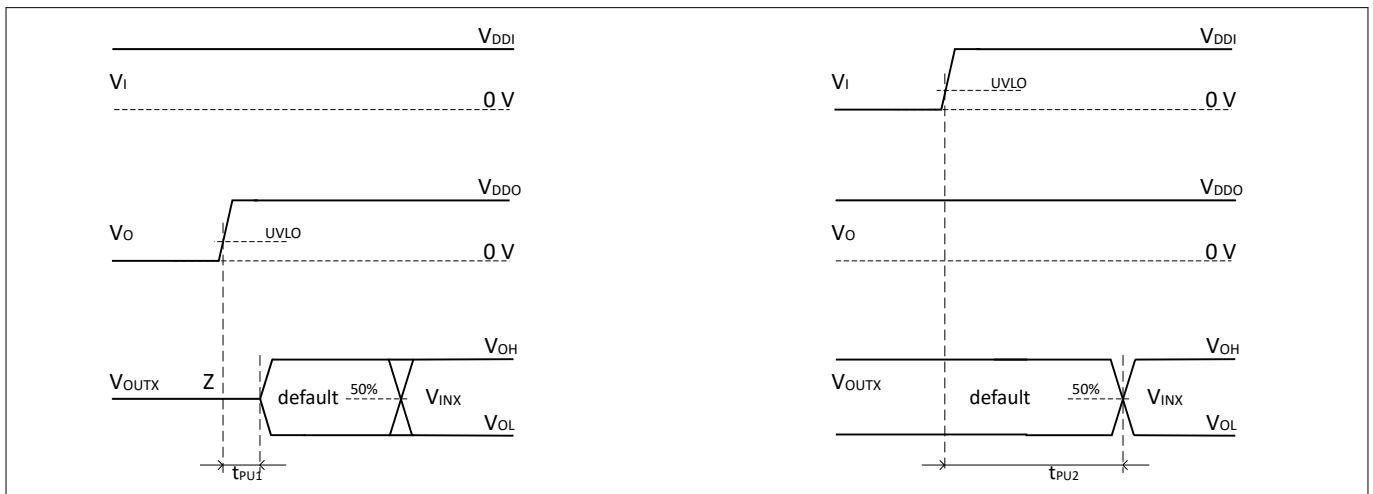

Figure 10 Power-up delay time
Figure 10 illustrates the time taken for the output to follow the input when the power supplies of the input and output sides of the digital isolator have different start-up timings. The power-up time is $t_{PU} = \max\{t_{PU1}, t_{PU2}\}$.
Communication based on Coreless Transformer (CT) is used for signal transfer between input and output channels. If a constant DC level within the operating range is applied at the input, a proven high resolution pulse repetition scheme ensure functionality, enabling the output to follow the constant DC input. It also enables recovery from communication fails and safe system shutdown. In case of a power loss at the input channel, the pulse repetition scheme will be disabled and a watch-dog timer at the output triggers approximately after t_{DO} time period and drives the channel output to the default state. In case of multiple channels on the output side, the first watch-dog timer detecting the power loss at the input will drive all output channels on that side to default value. Once the power supply on the input channels is above the threshold value ($V_{DDX(UVLOon)}$), the communication is restored and the output will follow the input as shown in Figure 10.